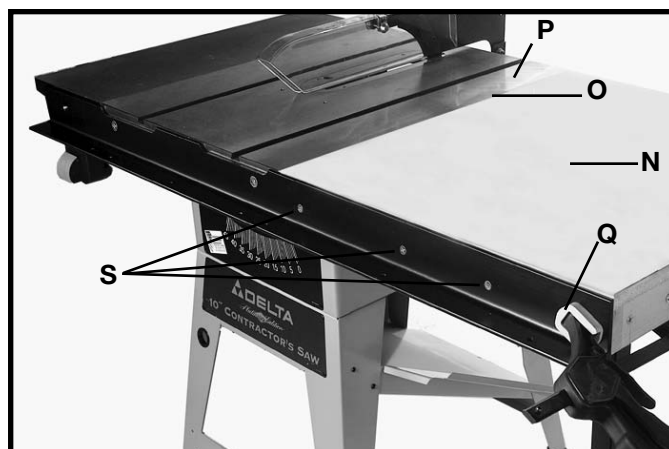
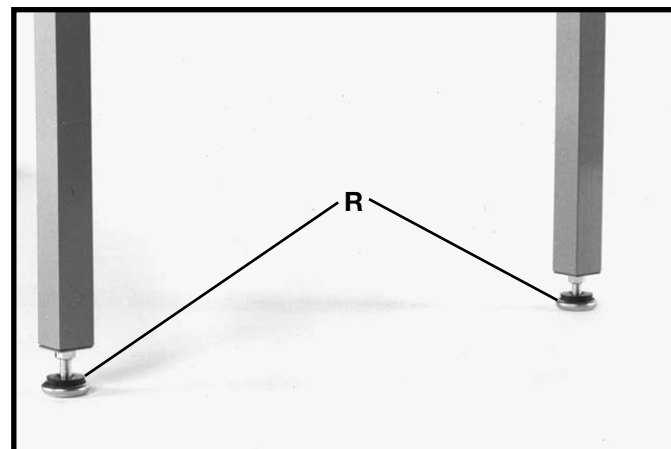

Fig. 85
Fig. 86
10. Place table assembly (N) Fig. 85, in position between the two rails, as shown. Make sure end of table (O) is flush against saw table (P) and using a bar clamp (Q) snug up end of rails to hold table in position. Using a straight edge make sure table (O) is in the same plane and level with saw table (P). Lightly tap table up or down and adjust leveling screws (R) Fig. 86, in bottom of legs to accomplish this. When you are certain table (O) Fig. 85, is level and in the same plane with saw table (P), tighten bar clamp (Q) to hold everything in position. Then drill 1/4 through holes through the front and rear of the extension table using the holes (S) provided in rails as template.